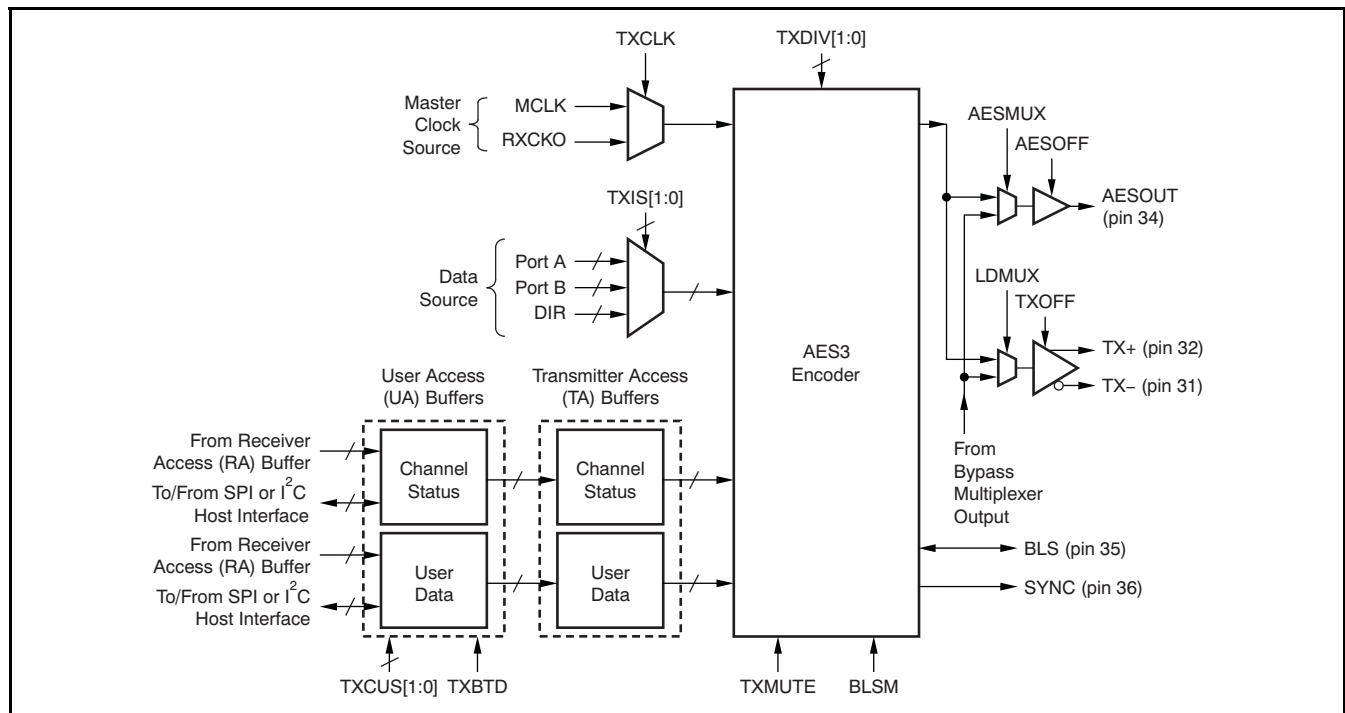
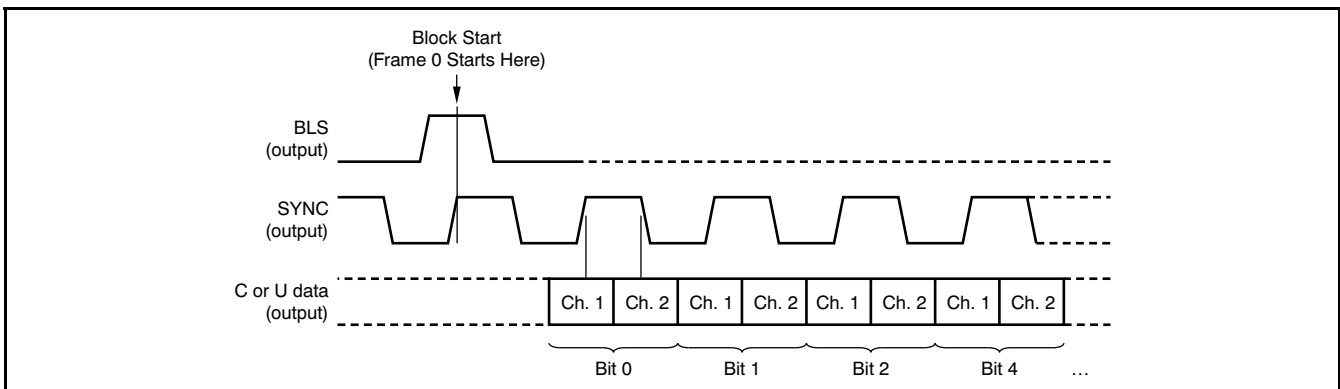

Figure 10. Digital Interface Transmitter (DIT) Functional Block Diagram
Figure 16. DIR Channel Status and User Data Serial Output Format Via the GPO Pins
The DIT encodes a given two-channel or data-reduced audio input stream into an AES3-encoded output stream. In addition to the encoding function, the DIT includes differential line driver and CMOS-buffered output functions. The line driver is suitable for driving balanced or unbalanced line interfaces, while the CMOS-buffered output is designed to drive external logic or line drivers, as well as optical transmitter modules. Figure 10 illustrates the functional block diagram for the DIT.
The AES3 encoder output is connected to the output line driver and CMOS buffer source multiplexers. As shown in Figure 10, the source multiplexers allow the line driver or buffer to be driven by the AES3-encoded data from the DIT, or by the bypass multiplexer, which is associated with the outputs of the four differential input line receivers preceding the DIR core. The bypass multiplexer allows for one of the four line receiver outputs to be routed to the line driver or buffer output, thereby providing a bypass mode of operation. Both the line driver and CMOS output buffer include output disables, set by the TXOFF and AESOFF bits in control register 0x08. When the outputs are disabled, they are forced to a low logic state.
The decoded audio data, along with the internally-generated sync clocks, may be routed to other function blocks, including Port A, Port B, and/or the DIT. The decoded channel status and user data are buffered in the corresponding Receiver Access (RA) data buffers, then transferred to the corresponding User Access (UA) data buffers, where it may be read back through either the SPI or I²C serial host interface. The contents of the RA buffers may also be transferred to the DIT UA data buffers; this transfer is illustrated in Figure 10. The channel status and user data bits may also be output serially through the general-purpose output pins, GPO[4:1]. Figure 16 illustrates the output format for the GPO pins when used for this purpose, along with the DIR block start (BLS) and frame synchronization (SYNC) clocks. The rising edges of the DIR SYNC clock output are aligned with the start of each frame for the received AES3 data.